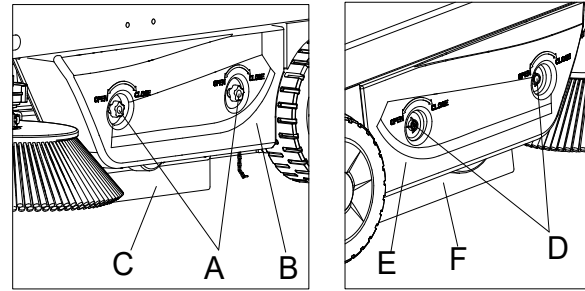
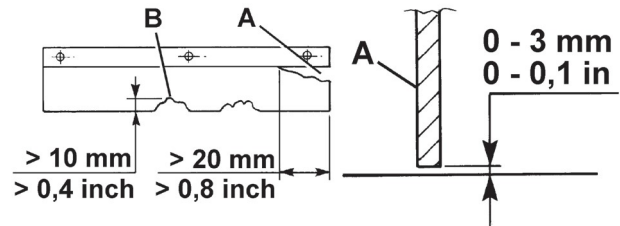
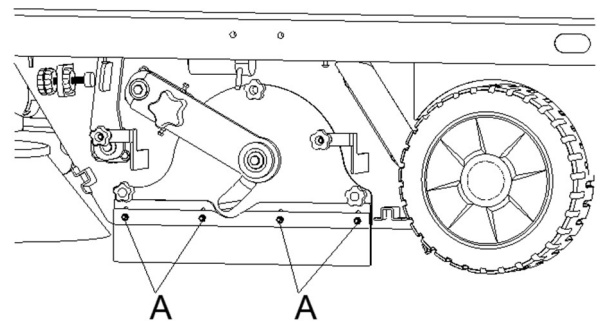
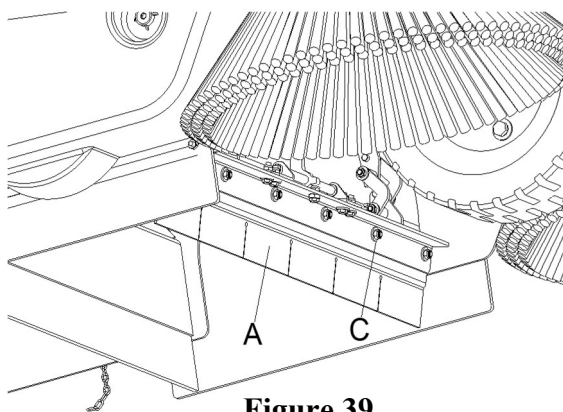

Figure 34
Figure 35
Figure 37
Figure 39
4. Unscrew the knobs (A and D, Figure 34) and remove both left (B, Figure 34) and right (E, Figure 34) covers.
5. Check the side blades (C and F, Figure 34) for integrity. Replace the blades when they have cuts (A, Figure 35) larger than 20 mm or cracks (B, Figure 35) larger than 10 mm (for blade replacement, refer to the Service Manual).
6. Check that distance from the ground to the side blades (C and F, Figure 34) is within 0-3 mm (A, Figure 35). If necessary, adjust the blade height by adjusting the slots with the screws (A, Figure 37).
9. Check the front (A, Figure 39) and rear blades (B, Figure 38) for integrity. Replace the blades when they have cuts (A, Figure 35) larger than 20 mm or cracks (B, Figure 35) larger than 10 mm (for blade replacement, refer to the Service Manual).
- The distance from the ground to the rear blade (B, Figure 38) is within 0-3 mm (A, Figure 35).
11. If necessary, adjust the blade height by adjusting the slots with the screws (C and D, Figure 39 and 38).